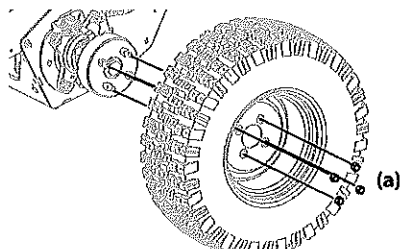

Figure 28
1. With the tires on the ground, loosen, but do not remove the four lug nuts (a). See Figure 28.